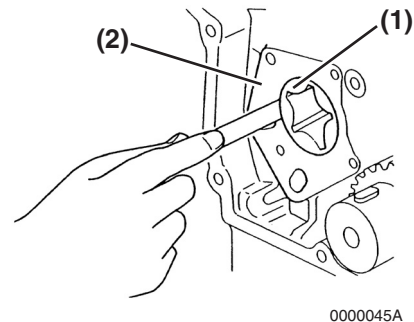

Figure 9-17
Determine the outside clearance of the outer rotor. Insert a feeler gauge between the outer rotor (**Figure 9-17, (1)**) and gear case oil pump cavity (**Figure 9-17, (2)**).